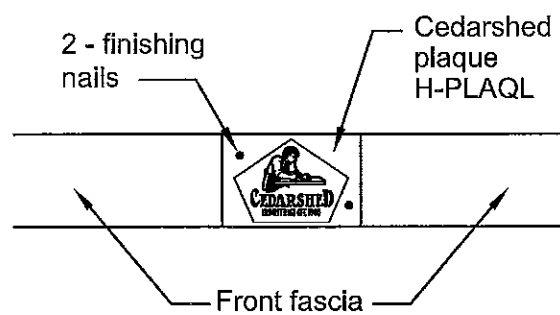

FIGURE S32
- Attach plaque with finishing nails. Rectangle shape plaques is attached to front fascia. See Figure S32.